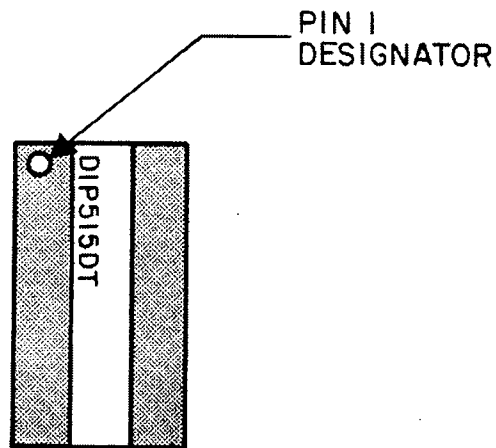

Figure F-3. DC-DC Converter, U15 (Enlarged View)
12. The dc-dc converter (Part Number DIP515DT), is illustrated in **Figure F-3**. Note that the number 1 pin of the converter is located with a large white dot.